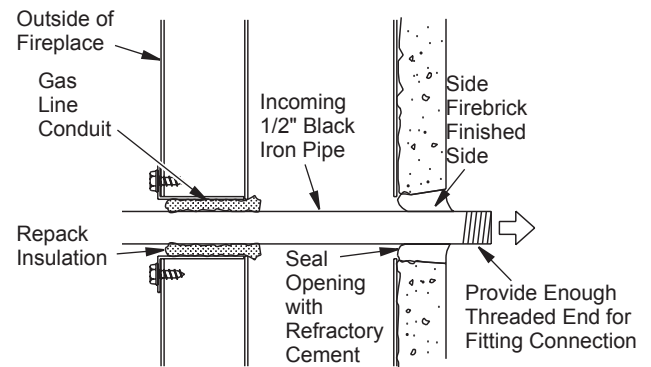

Figure 30 - Gas Line Installation
3. Run 1/2" black iron gas line into the firebox through the rear at 11 1/4" from floor and through gas line conduit sleeve (if using a raised platform, add height). Provide sufficient gas line into firebox chamber for fitting connection (see Figure 30).